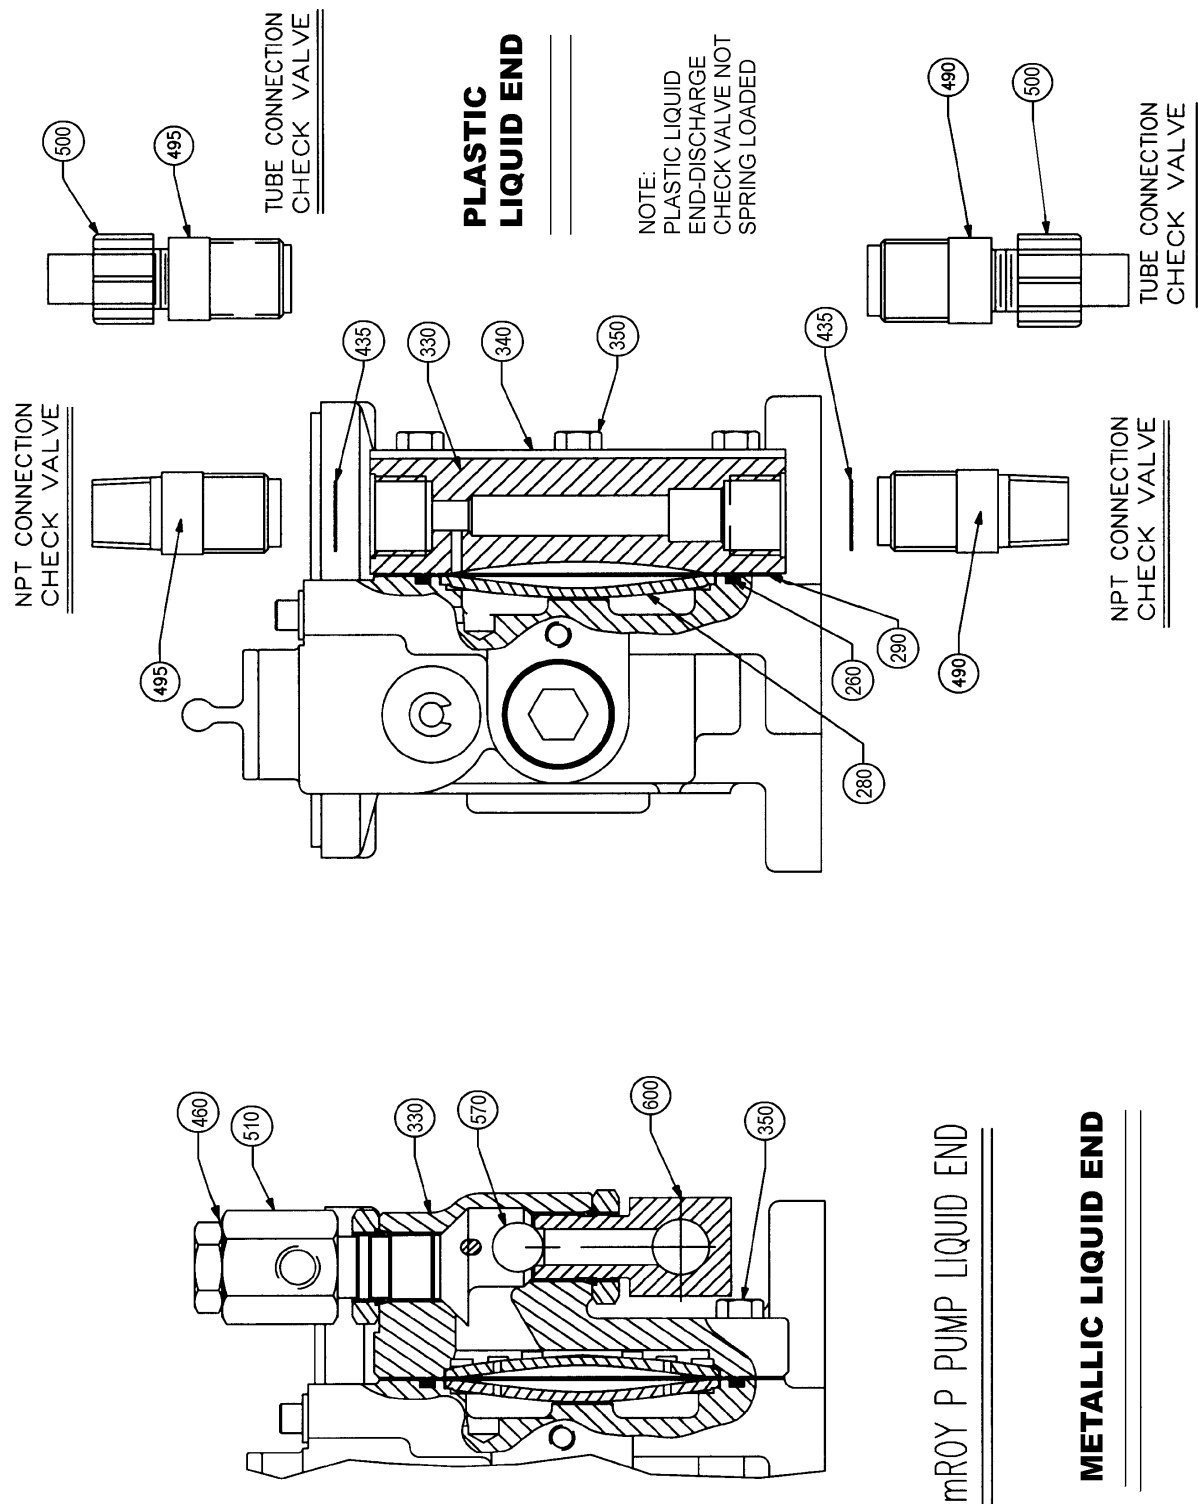

Figure 20. mRoy A Metallic and Plastic Liquid End
6.4 PARTS COMMON TO LIQUID END MODELS “RA”, “RP”, AND “RJ” (FIGURE 20 & 21)